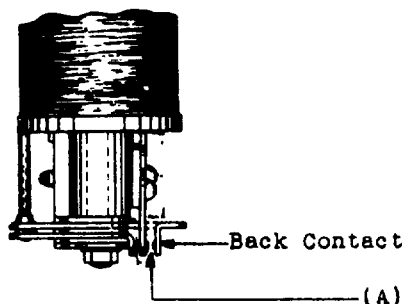

Fig. 4 - Contact Separation
2.07 Contact Separation - Fig. 4 (A): Unless otherwise specified on the circuit requirement table, the contact separation shall be as specified in Table "A" below. Use the No. 74D gauge and check the separation between the back contacts with the relay electrically operated.